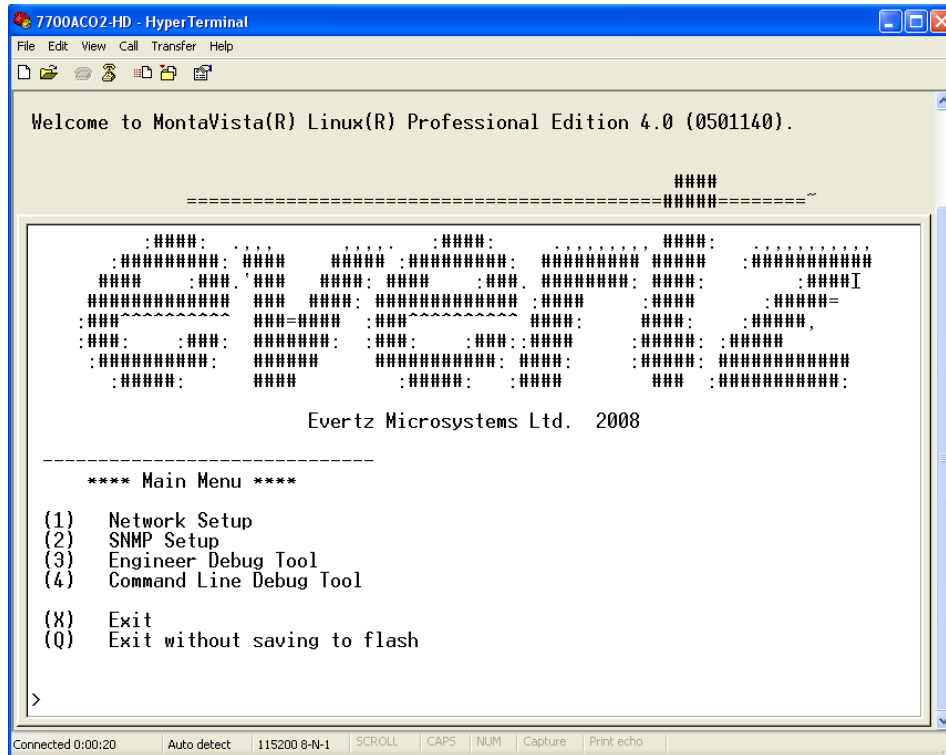

Figure 2-5: Main Setup Menu
5. Once logged in, the user will be presented with a *Main Menu* setup screen as shown in Figure 2-5.
12. Next the user will need to configure the SNMP Setup. To do so, return to the main menu screen, as shown in Figure 2-5, and select option <2> *SNMP Setup*.